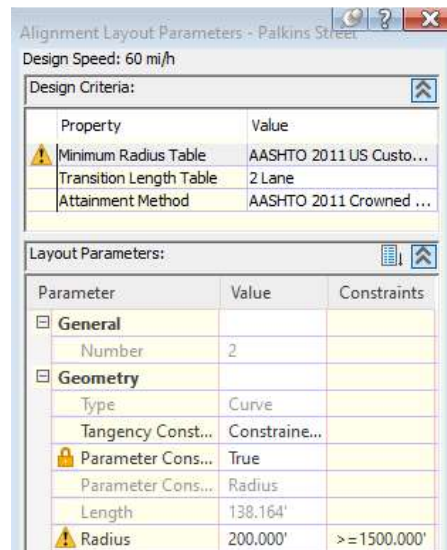

Figure 5-74 The *Alignment Layout Parameters - Palkins Street* dialog box
4. Invoke the **Pick Sub-entity** tool; you are prompted to select the sub entity. Select the curve on which the violation symbol is displayed; the **Alignment Layout Parameters- Palkins Street** dialog box is displayed with relevant values, as shown in Figure 5-74.